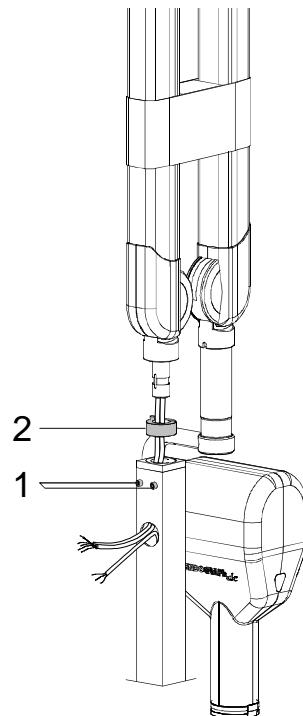

Figure 6-13
1. Loose the two screws (1 - Figure 6-13) to allow the positioning of the scissors arm.
2. Assemble the scissors arm (there is no extension arm in this configuration), being careful to insert the spacer (2 - Figure 6-13) into the rotation pin. The spacer (code 6161305600) is included in the mounting hardware packaging.